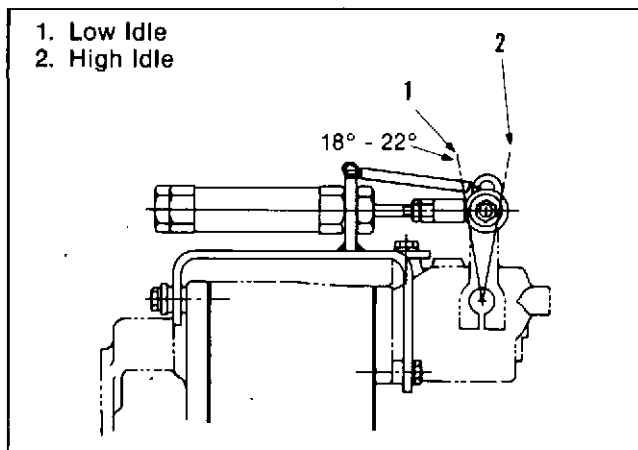

Fig. 10-44, (F5373). Air cylinder kit, Part No. 3017333, on a VS fuel pump.
1. Install the cap nuts and locknuts all the way on the two air cylinders. Install the actuating assembly onto the fuel pump, Fig. 10-44.